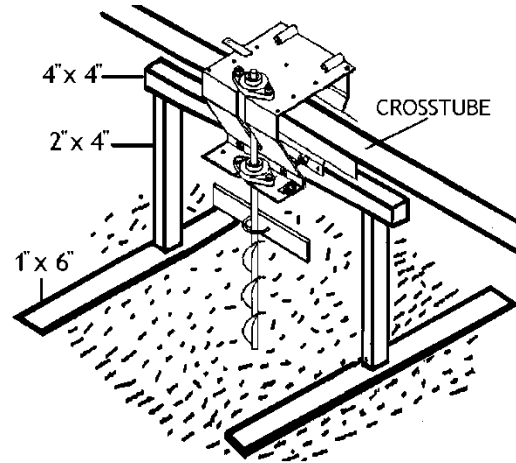

Fig. 40 – Supporting carriage during restart
- 1 Support carriages and prevent distortion of crosstube by setting boards on top of grain as shown in Fig. 40.